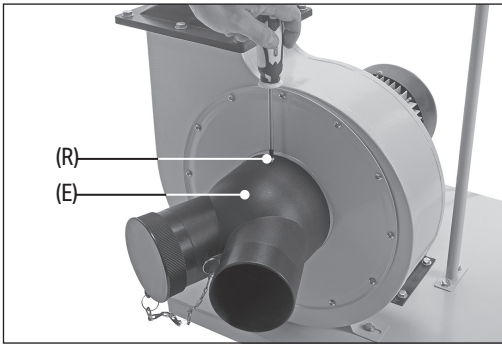

Fig. 5
5. Remove the M5 x 8mm screw (R) from the circular opening on the motor, then use it to attach the extractor inlet (E) (Fig. 5).